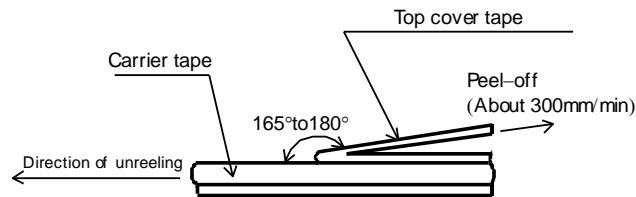
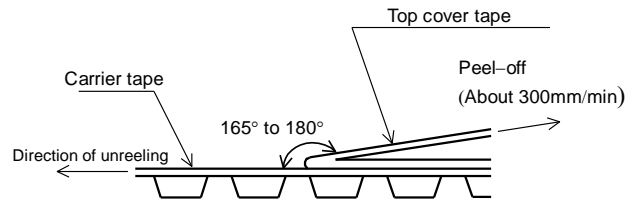

Figure-5
Figure-6
- 5). The peel strength of the top cover tape shall be within 0.1N to 0.5N on the test method as shown in the following MLP20: Figure-5, MLP63: Figure-6.